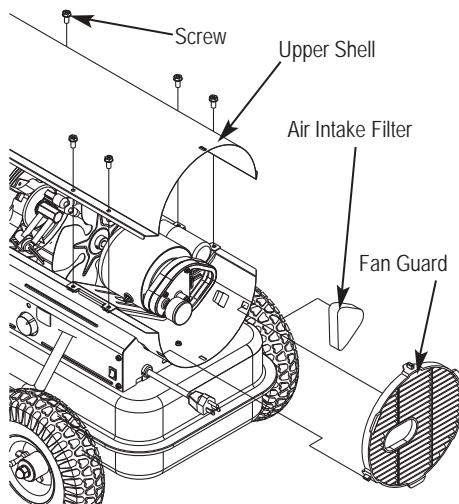

Figure 10 – Air Filter Access
- Remove upper shell and fan guard (See Air Intake Filter Figure 10).